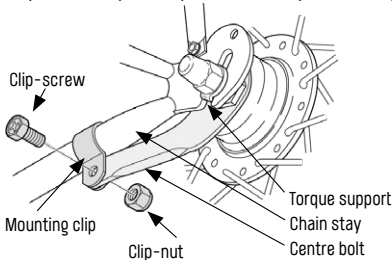

Fig. 3/21 Centre bolt; source Shimano
- Coaster brakes are fitted with a centre bolt (“Fig. 3/ Centre bolt; source Shimano” on page 21), which rests on the chain stay of the frame. For correct operation, it must be firmly mounted using a fastening clip or directly on the chain stay.